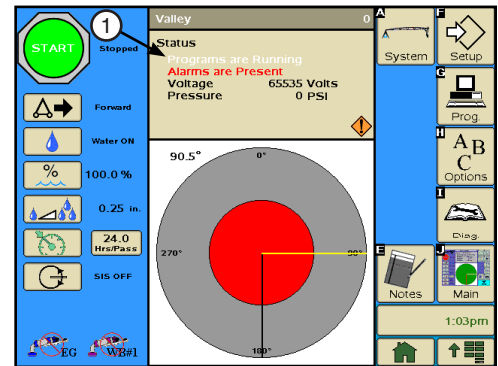

Figure 95-3 1. Program Running Indicator
- Programs are Running flashes in the status area. Refer to Figure 95-3.